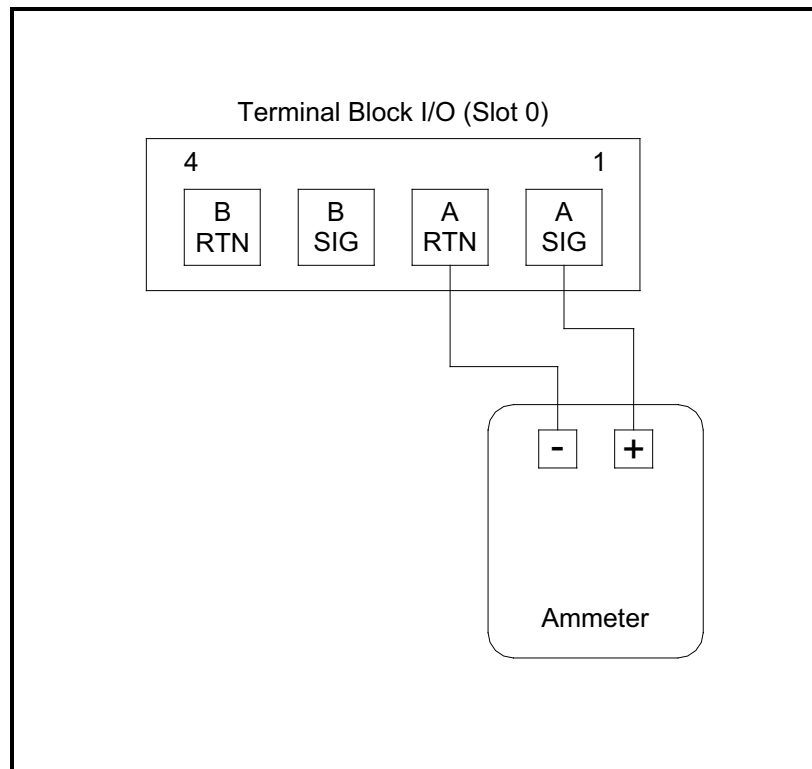
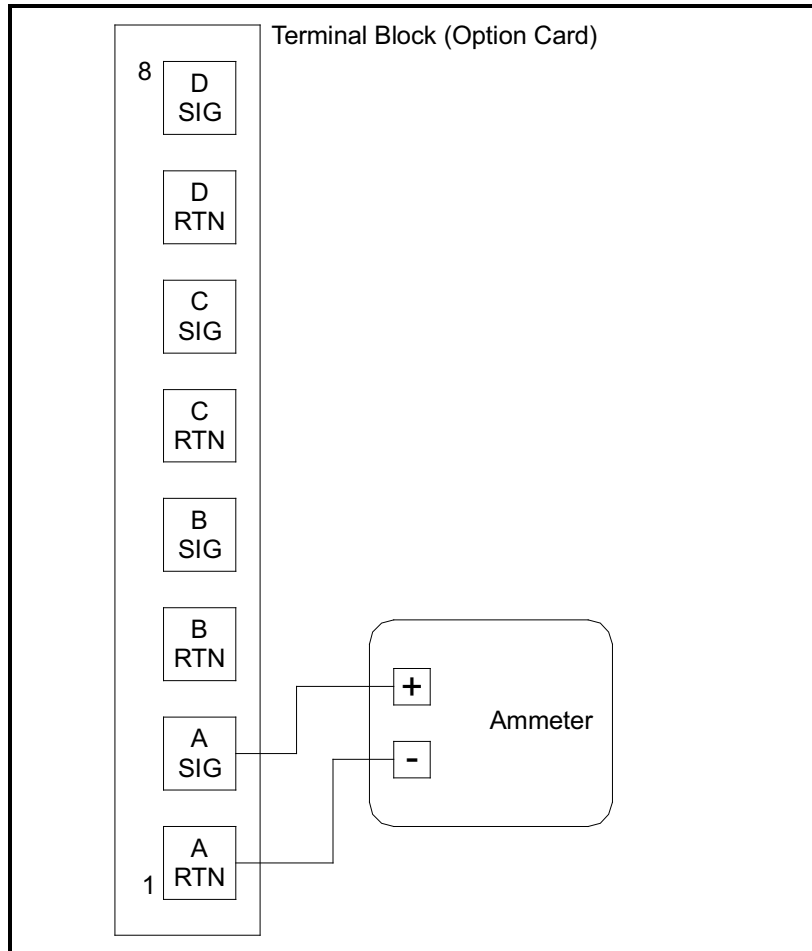

Figure 1: Ammeter Connection for Slot 0 (Output A)
Figure 2: Ammeter Connection for Slots 1-6 (Output A)
Prepare for the calibration procedure by connecting an ammeter to the desired analog output of **Slot X**, as shown in Figure 1 below and Figure 2 on the next page. Refer to the menu map in Figure 6 on page 15.
**IMPORTANT:** The procedure for calibrating **all the outputs is the same**. However, when calibrating **a different output**, be sure to reconnect the ammeter to the appropriate pins on terminal block I/O. See Figure 1 on page 2 or Figure 2 above for the correct pin numbers.